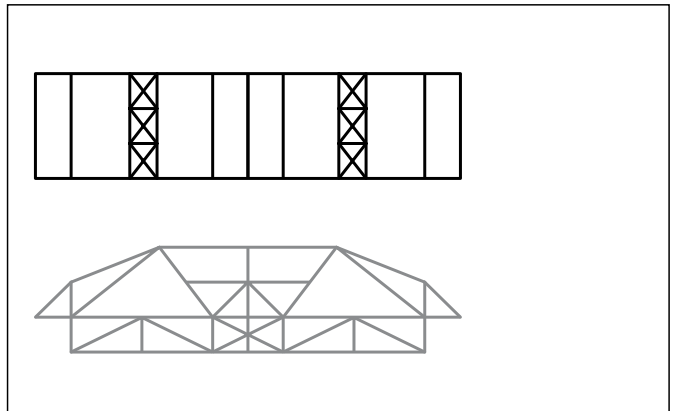

Figure 14 – Same view as Figure 13 but with the top view added directly above the side view.
2. Next, draw the top view to full scale (Figure 14). Align it directly above the side view. The top view is the view you would see if you were in an airplane looking down at the top of the bridge.